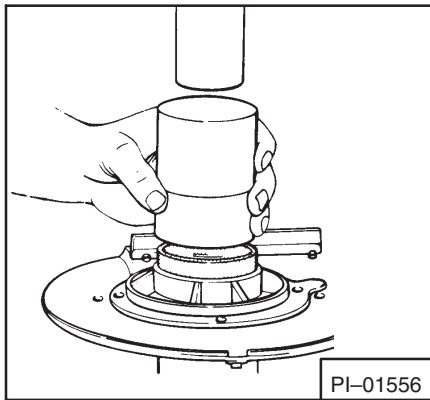

Fig. 52 Pressing Bearing Plate
- a. Press front main bearing into bearing plate (Fig. 52). Make sure bearing is straight and true in bore and bottomed properly. If cocked, crankshaft end play will be adversely affected.